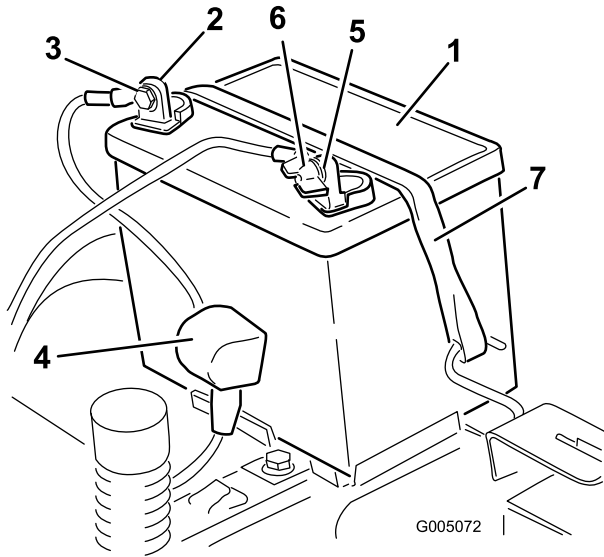

Figure 33
4. Disconnect the negative (black) ground cable from the battery post (Figure 33). Retain all fasteners.
- Slide the rubber cover up the positive (red) cable. Disconnect the positive (red) cable from the battery post (Figure 33). Retain all fasteners.
- Remove the battery hold-down (Figure 33) and lift the battery from the battery tray.
- Position the battery in the tray with the terminal posts toward the operating position (Figure 33).
- Secure the battery with the hold-down (Figure 33).